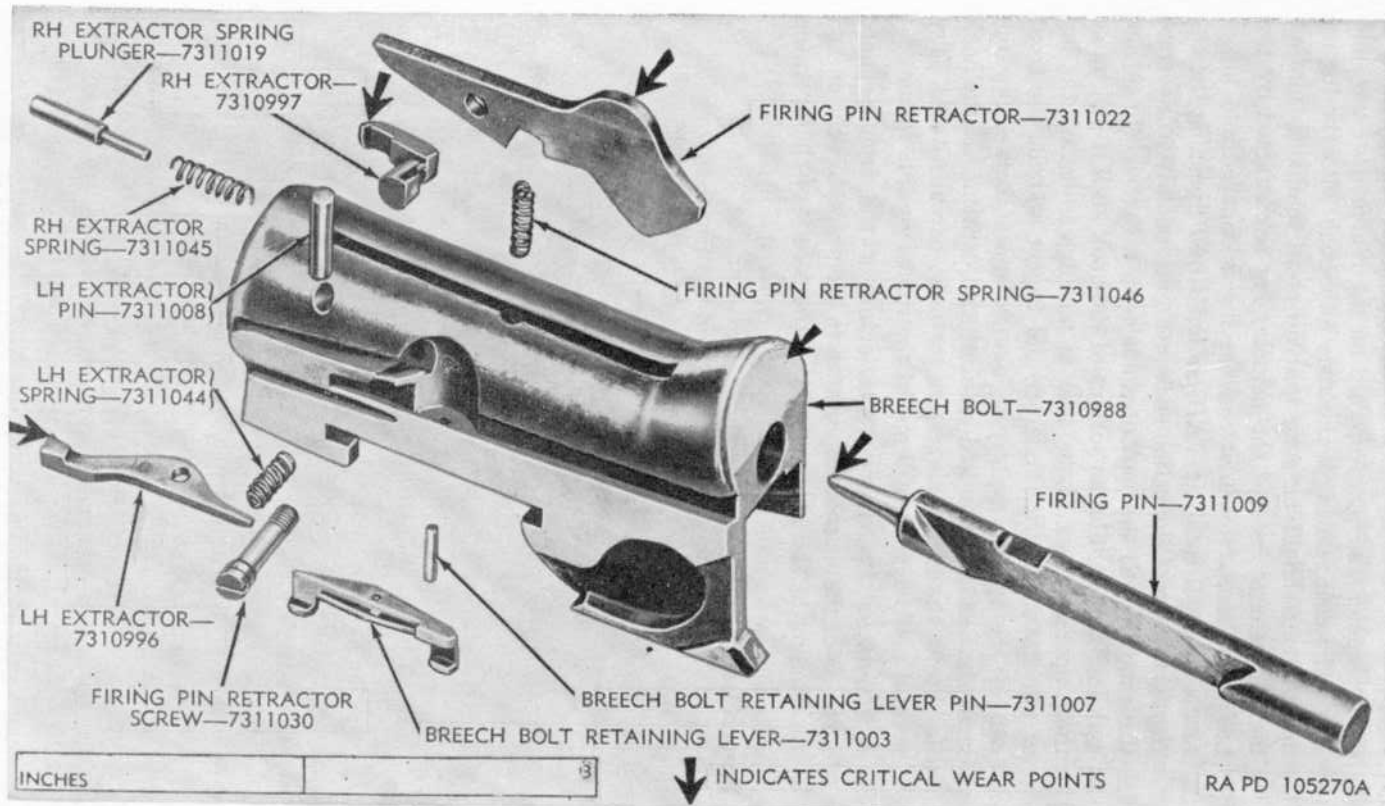

Figure 28. Breech bolt group—exploded view.
a. Removal and Disassembly (fig. 28).
- (1) Replace all broken, worn, or otherwise unserviceable parts. Replace all missing parts. Remove burrs and rust as explained in paragraph 27e and f. Remove foreign matter from the breech bolt firing pin aperture and from the breech bolt camming aperture. Check firing pin protrusion (table V).
- (2) If the breech bolt retaining lever pivots too freely in its seat, remove, then insert a small screwdriver in the slot, and increase the width until the pivot action is resisted slightly by friction.
- (3) If the right hand extractor spring plunger, the right hand extractor, or spring is beyond repair, replace it.
- (4) Replace unserviceable left hand extractor or left hand extractor spring.
- (5) Replace unserviceable left hand extractor pin.
- (6) Replace unserviceable firing pin, firing pin retractor, firing pin retractor spring, or screws.
- (7) If the lever, the breech bolt retaining lever pin and breech bolt are unserviceable, replace them.
d. Assembly and Installation (fig. 28).
- (1) Slide the firing pin into the breech bolt, with the flat side of the pin to the left. Allow the point of the firing pin to protrude slightly beyond the face of the breech bolt.
- (2) Insert the firing pin retractor spring in its slot in the top of the breech bolt and place the firing pin retractor in the slot.
- (3) Aline the corresponding holes in the firing pin, firing pin retractor, and breech bolt. Install the firing pin retractor screw.